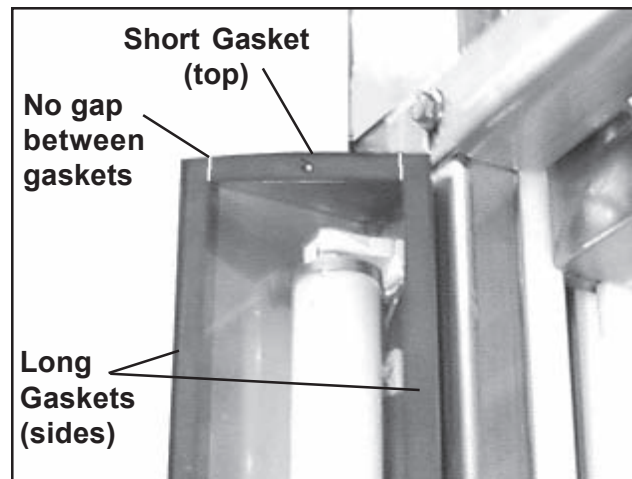

Figure 26. Top End of Light Fixture
4. With a knife or scraper, peel the old gaskets from the light fixture (Figure 26).
2. Peel the protective back from one of the long gaskets and apply the gasket to one of the gasket areas on the fixture. (Figure 26).
4. Measure the space between the two long gaskets at the top of the fixture and trim one of the short gaskets to fit. There must be no gaps between the gaskets through which water might enter the fixture (Figure 26).
5. Peel the protective back from the trimmed gasket and apply it to the top gasket area on the fixture (Figure 26).